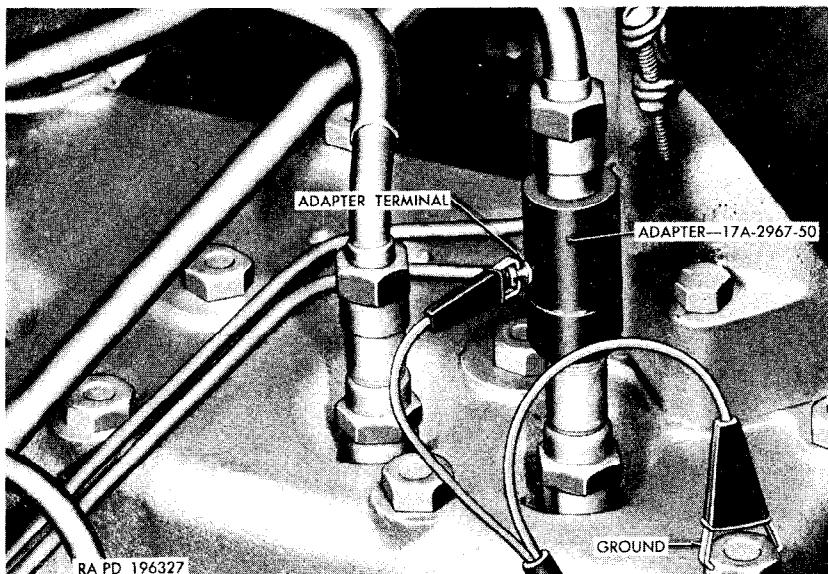

Figure 94. Timing light adapter 17-A-2967-50 installed.
b. Connect Timing Light. Remove the spark plug cable from the No. 1 spark plug and install the timing light adapter 17-A-2967-50 (fig. 94) on the threaded end of the spark plug. Connect the spark plug cable to the adapter. If the timing light is of the two-lead-type, attach one of the leads to the adapter terminal (fig. 94) and attach the other lead to one of the cylinder head cap screws for a ground.